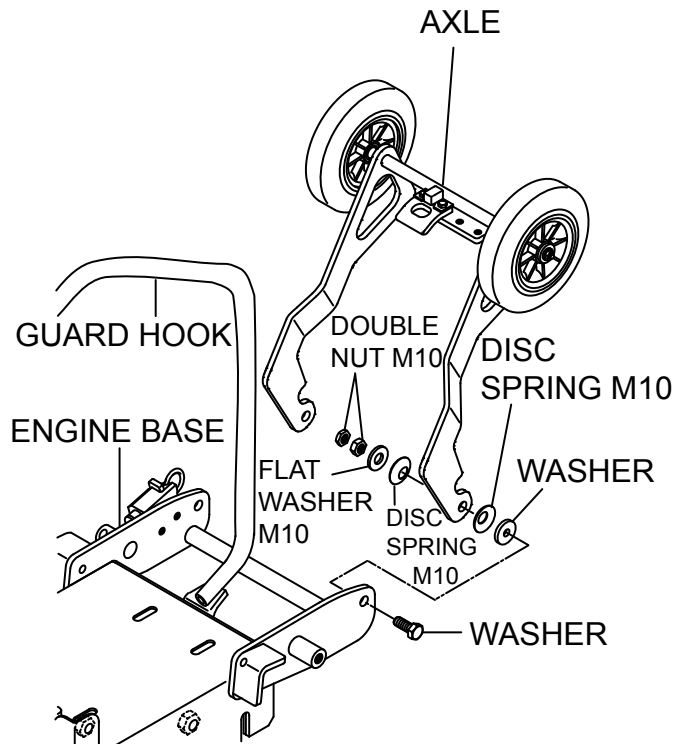

Figure 3. Axle Installation
1. Attach the axle (item 1) to the engine base using the supplied M10X35 bolts (item 6), disc springs (item 7), lock washers (item 8) and nuts (item 9). See Figure 3.